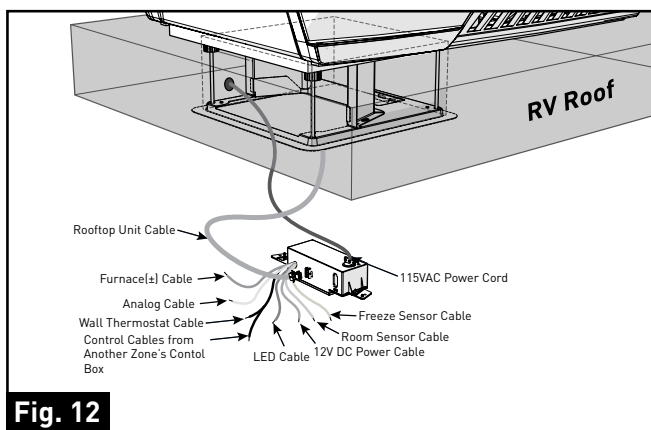

Fig. 12
13. Connect the other wires of the rooftop unit cable to the control box. (Fig. 12)